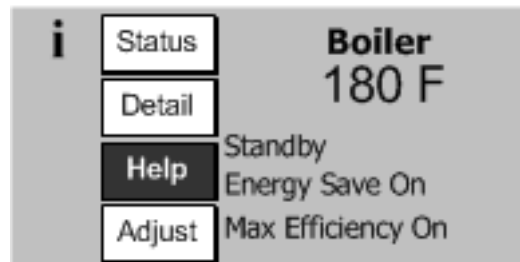

Figure 11.2c: Home Screen with Active Fault
- 13) If there is a problem that appears before the first try for ignition, or if the boiler fails to light after six tries for ignition, the blinking “HELP” button is highlighted on the Home screen (Figure 11.2c). Touching this “HELP” button will take the user to the Diagnostics menu where the cause of the problem can usually be found by pressing the flashing button on each successive screen.